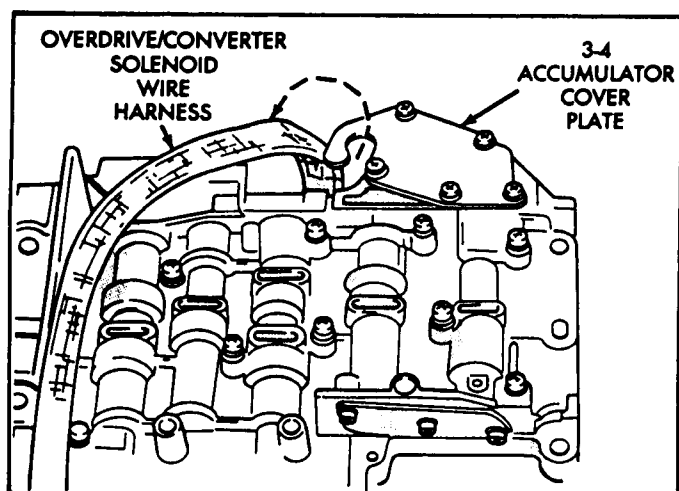

Figure 115
52. Route the wire harness, as shown in Figure 115, and hook into the 3-4 accumulator cover plate.